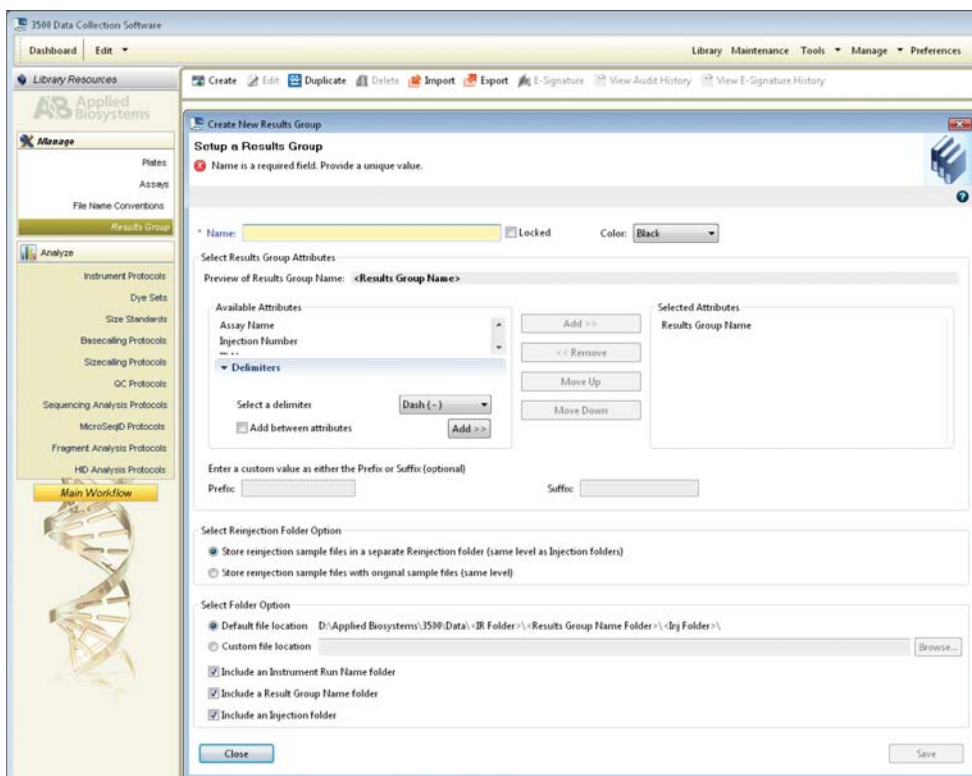

Figure 8. The Create New Results Group window.
- f. To create a new Results Group (Figure 8), navigate to the Library. Select “Results Group”, then select “Create”. Alternatively, a previously created Results Group may be used.